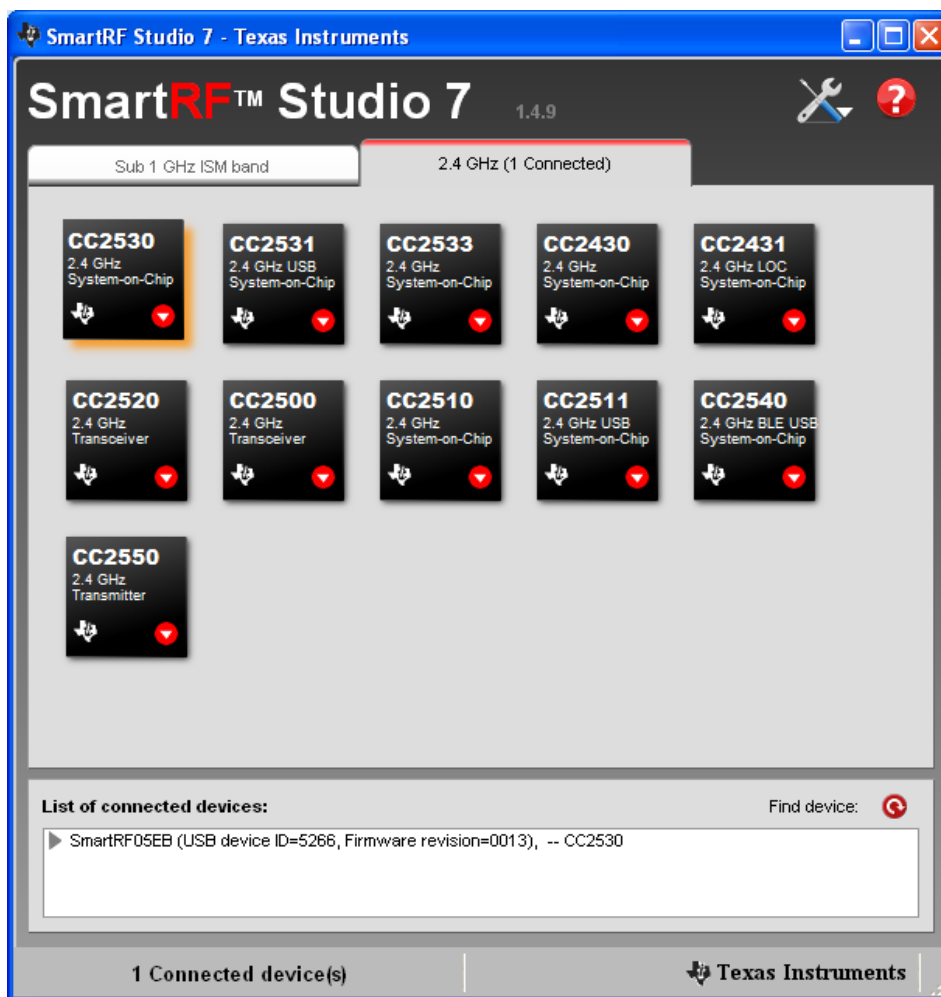

Figure 3 - CC2530 and SmartRF Studio
- Double click on both of the devices in the device list in SmartRF Studio (Figure 3), opening two windows, giving control of the two radios at the same time.